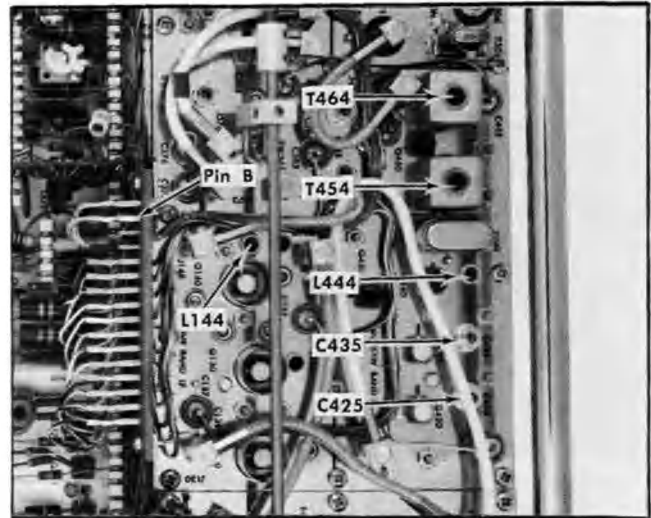

Fig. 5-7. Location of the IF amplifier peaking adjustments.
d. ADJUST—L144 (wide band amplifier) T464, T454, C435 and C425 (narrow band amplifier), see Fig. 5-7, in the order listed for maximum signal amplitude.
e. ADJUST—L444, see Fig. 5-7, for stable 70 MHz oscillator operation. The stable point is midway between the two oscillator drop out points when the core of L444 is turned in and out through the operating range.
h. Connect the 10X probe from the test oscilloscope to pin B of the honeycomb pin connector, see Fig. 5-7.